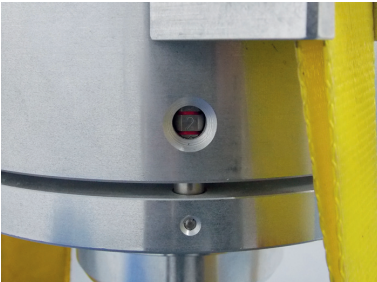

Fig. 5
- Check that the FRIATOP clamping unit is unpressurised (no air pressure at the valve). If necessary, squeeze the housing **(2)** until you can see the clamping figures $\frac{1}{2}$ in the inspection glass **(10)** (see Fig. 5).